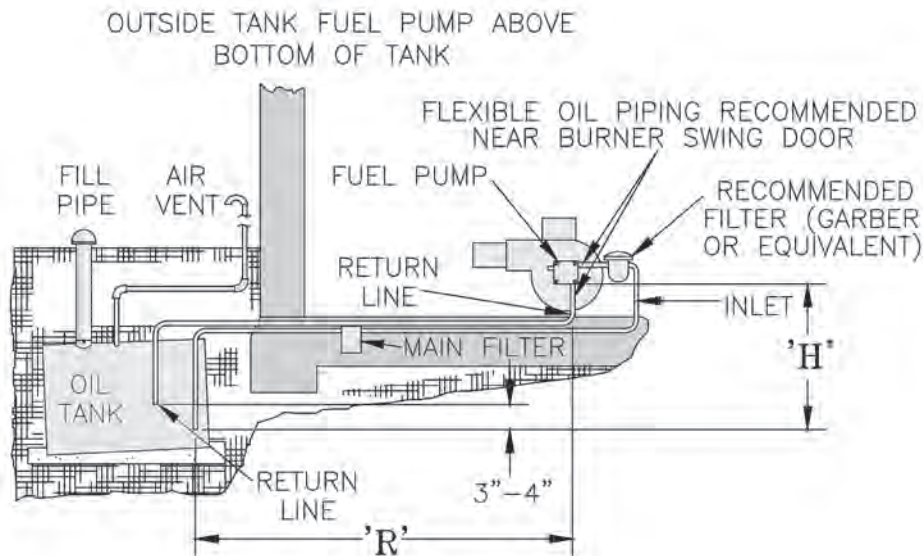

Figure 25: Two Pipe Oil Lines
1. For two piped systems, where more lift is required, the two-stage fuel unit is recommended. Table 6 (two-stage) and Table 7 (single-stage) show allowable lift and lengths of 3/8 inch and 1/2 inch OD tubing for both suction and return lines. Refer to Figure 25.